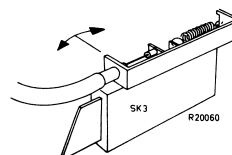

Fig. 28
#### 10. Replacement of Bowden cable 375 fig. 28.
- . When the inner cable appears to be too long or too short, this can be remedied by rebending the lip A on the switch SK3. (fig. 28).